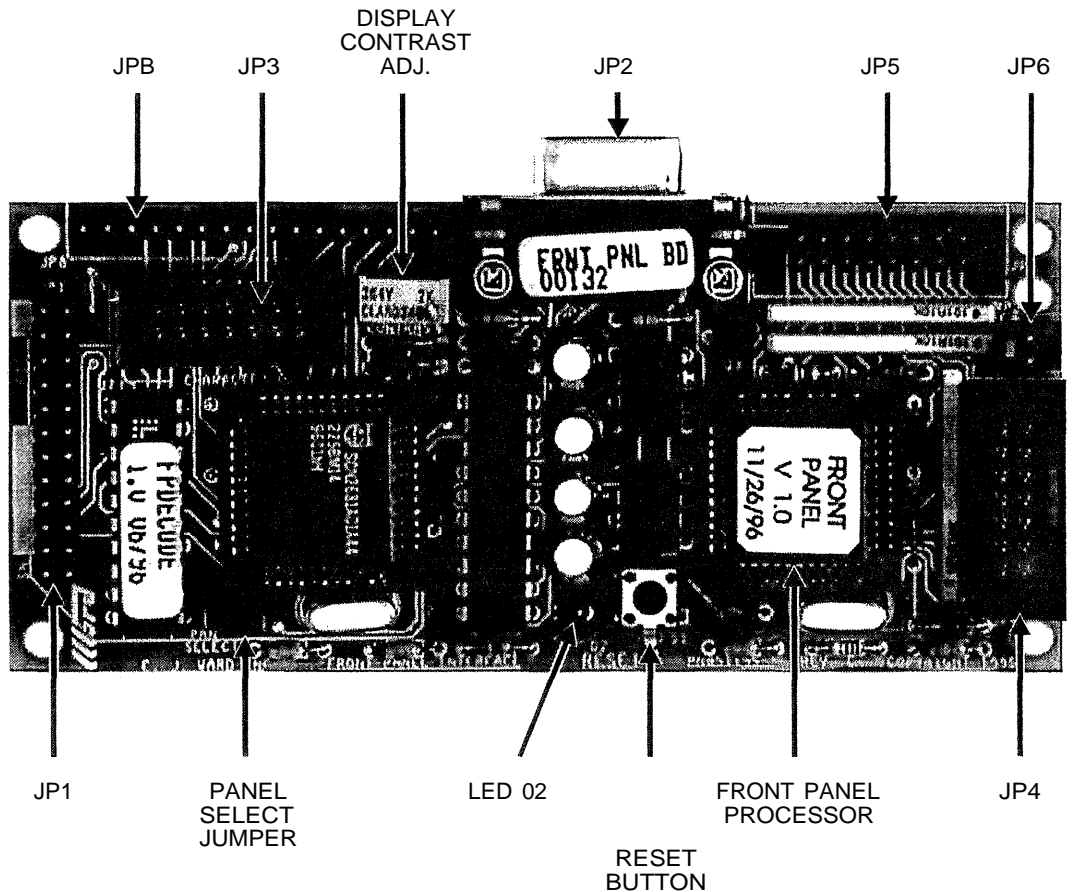

Figure 8-5 Top view of the Front Panel Interface Board.
- 1) Refer to Figure 8-5 and identify the DISPLAY CONTRAST ADJUSTMENT (R13) on the FPffi.